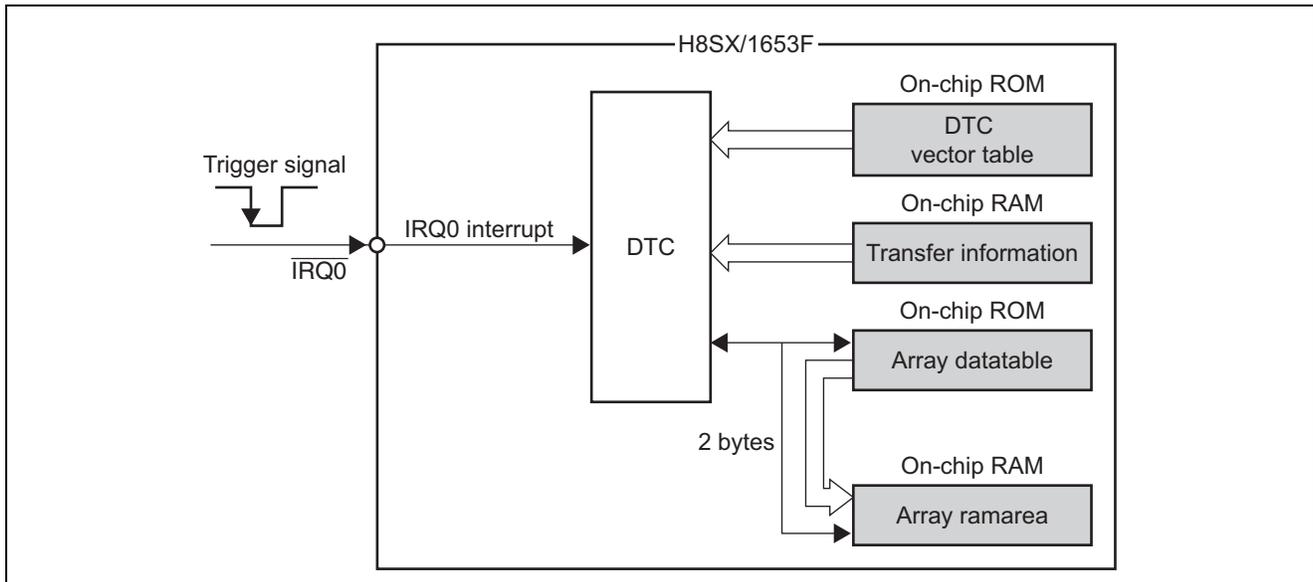

Figure 1 Data Transfer by the DTC with Transfer Information Write-Back Skipping Processing
- Figure 1 shows a block diagram of data transfer by the DTC for this sample task.